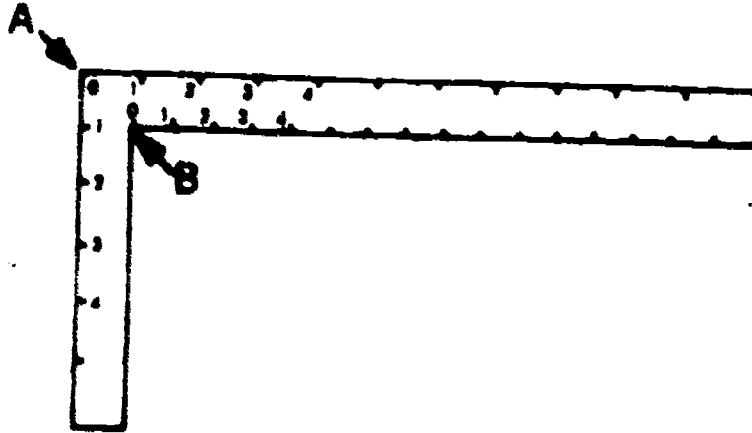

Figure 2. Square
Measure your dimensions accurately with a steel rule, steel yardstick, or carpenters square. If you use the square to measure a dimension, be sure to use the correct scale. If you are measuring from the outside edge of the square, use the scale, (A) Figure 2, marked on the outside edge. When measuring from the inside edge, use the scale (B), Figure 2, marked on the inside edge. Refer to Figure 2 and note that the zero point is not in the same place on both scales.